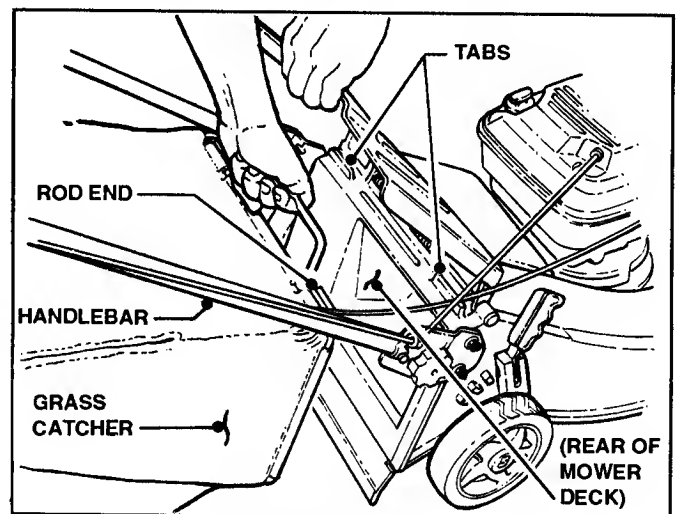

FIGURE 2.7
3. Grasp handle and hold *Grass Catcher* up while inserting over tabs at rear of mower deck. See Figure 2.7.